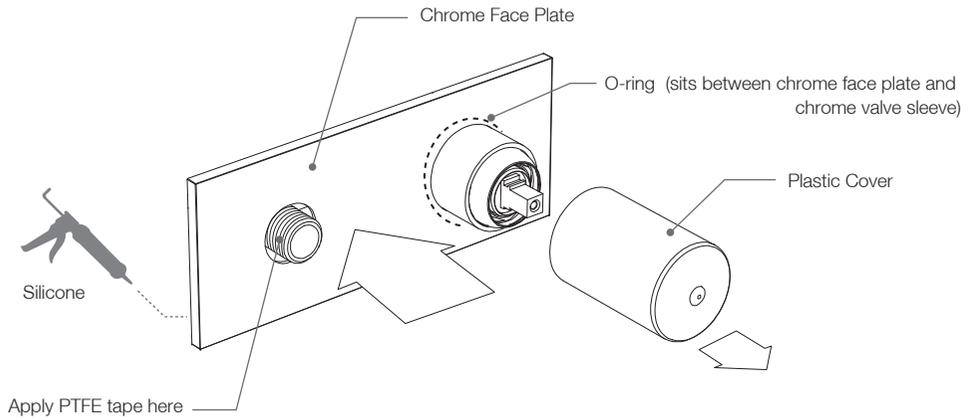

fig. 5
- Remove the plastic cover protecting the chrome valve sleeve. Apply PTFE tape to the spout connector thread. Slide the chrome face plate over the valve until flush against the finished wall surface. If necessary a small amount of silicone sealant can be used to secure the face plate against the wall surface (fig 5). However use sparingly in case future removal of the plate is required.